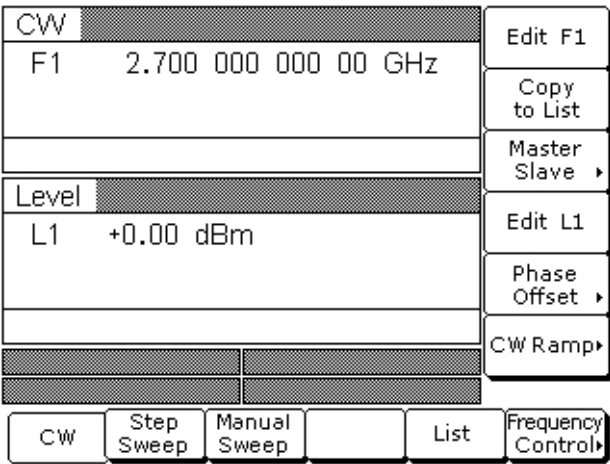

Figure 5-4. CW Menu
- a. Reset the instrument by pressing **System**, then **Reset**. The CW menu is displayed (Figure 5-4).